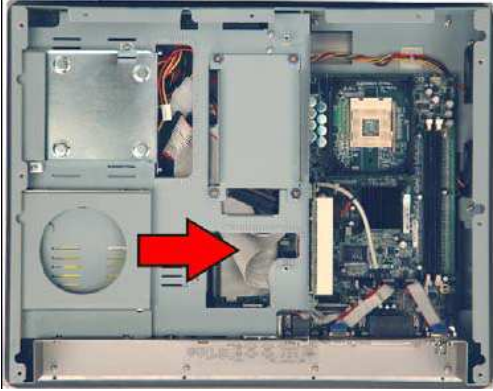

Figure 3-7: Remove CD Drive
Step 5: Remove the two retention screws from the bottom panel and slide the CD drive blank plate assembly toward the PCI riser card until it can be lifted out of the chassis (**Figure 3-7**).